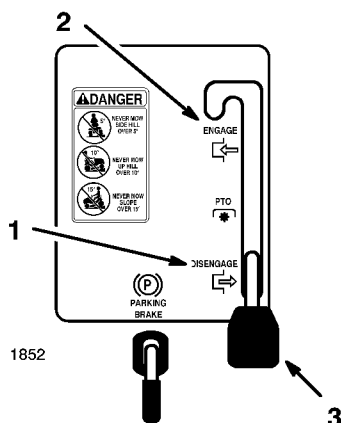

Figure 5
2. Move the blade control (PTO) to “ENGAGED” (Fig. 5).
2. Move the blade control (PTO) to “DISENGAGED” (Fig. 5).